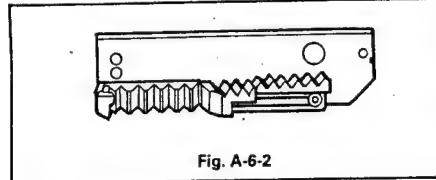

Fig. A-6-2
- ① Turn the Drive Gear Assembly in the direction of arrow (C).
- ② Reassemble the Rack Gear N.D. to the Side Bracket Assembly, as shown in Fig. A-6-2, and then reassemble